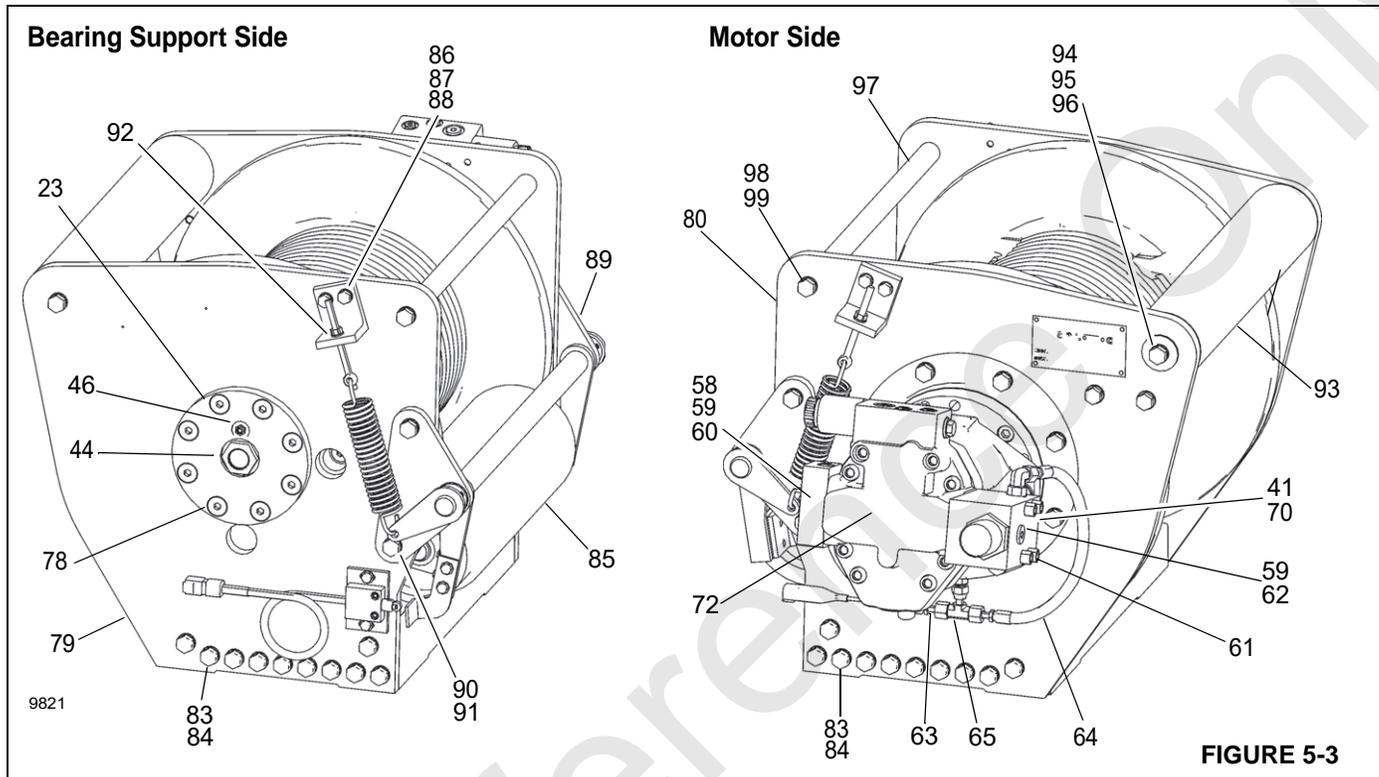

FIGURE 5-3
3. Remove the roller assembly (85, Figure 5-3). For more information, *Roller Assembly*, page 5-9.
5. Remove the oil level sight gauge (44).
6. Remove the vent plug (46).
8. Tag and remove the hydraulic hoses (63 and 64) that connect the brake valve (62) and manifold (60) to the brake cylinder (1).
9. Remove the capscrews (70) and lockwashers (41) securing the motor (72), and lift the motor off of the hoist. Remove and discard the O-ring (33) installed on the pilot of the motor.
10. Tag and remove the hoses (63 and 64) and fittings (65) from the brake cylinder release port.
14. Remove the motor end side plate (80).
15. Using two heel type pry bars placed between the primary planet carrier and the drum closure, pry upward to remove the drum closure (25). Remove and discard the O-ring (28) from the outside of the drum closure (25). Some drum closures have 3/8-16 tapped lifting eye holes that may be used in place of the heel bars.
16. Remove the seal (29) and bearing (26) from inside of closure.
17. Remove the primary sun gear (35) and thrust washer (31) from the primary planet carrier (10).
18. Remove the primary planet carrier (10) from the drum. Refer to *Planetary Set*, page 5-10 for additional information.
19. Remove the output sun gear (34) and thrust washer (43) from the output planet carrier (16).
20. Remove the output planet carrier (16) from the drum. Refer to *Planetary Set*, page 5-10 for additional information.
21. Stand hoist on motor end with bearing support up. Remove eight bearing support capscrews (78, Figure 5-3) and bearing support (23, Figure 5-3 and Figure 5-4) being careful to avoid damaging the sealing or bearing surfaces.
22. Slide drum out of base onto a work bench and remove seal (27) and bearing (26) from support end.
Refer to Figure 5-3 and Figure 5-4 and the Hoist Parts List on page 5-7 to disassemble the hoist.
14. Install the hoses (63, 64, Figure 5-3) and fittings (65) to the brake cylinder release port.
16. Engage the motor shaft with the brake clutch inner race and lower motor into place. Tighten capscrews (70) and lockwashers (41) to recommended torque.
17. Install the hoses (63, 64, Figure 5-3) that connect the manifold (60) and brake valve (62) to the brake cylinder (1).
18. Install the roller assembly (85). For more information, *Roller Assembly*, page 5-9.
20. Install the oil level sight gauge (44).
21. Install the vent plug (46).